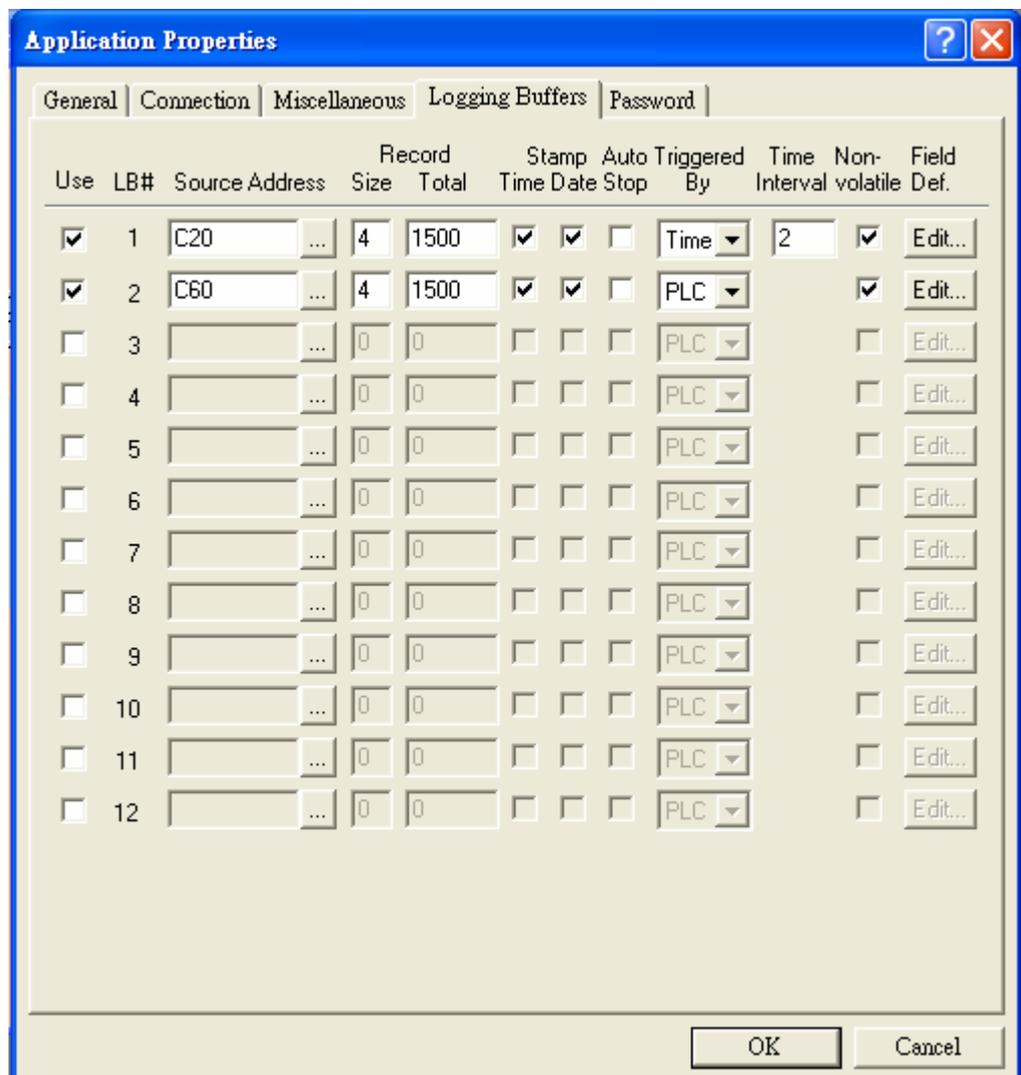

Figure 160. The [Logging Buffer] Tab
When design a [Historical Display] object, a user must set up the logging buffer's area and size first. See Figure 160. Concerning the steps to set up and data read from, please refer to [Section 2.7.16. \[Historical Display\]](#).
- [Source Address] : Specify the starting address of a block of registers in the PLC from which the Logging Buffer reads data. Here the source address is specified “C20” as in Figure 160.